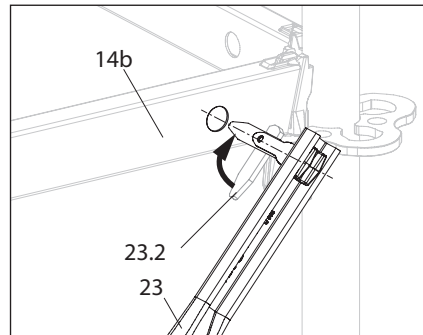

Fig. A4.08c
3. Straighten the tilt finger (23.2). (Fig. A4.08c)